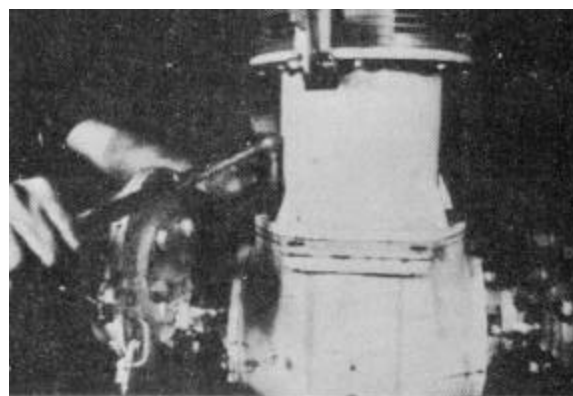

Figure 5-40
5. Remove the seven 9/16 - 12 x 2" long hex head cap screws and lockwashers with a 13/16 inch socket or box wrench from the differential case end of the drive motor support. Fig. 5-40 shows removal of these bolts.